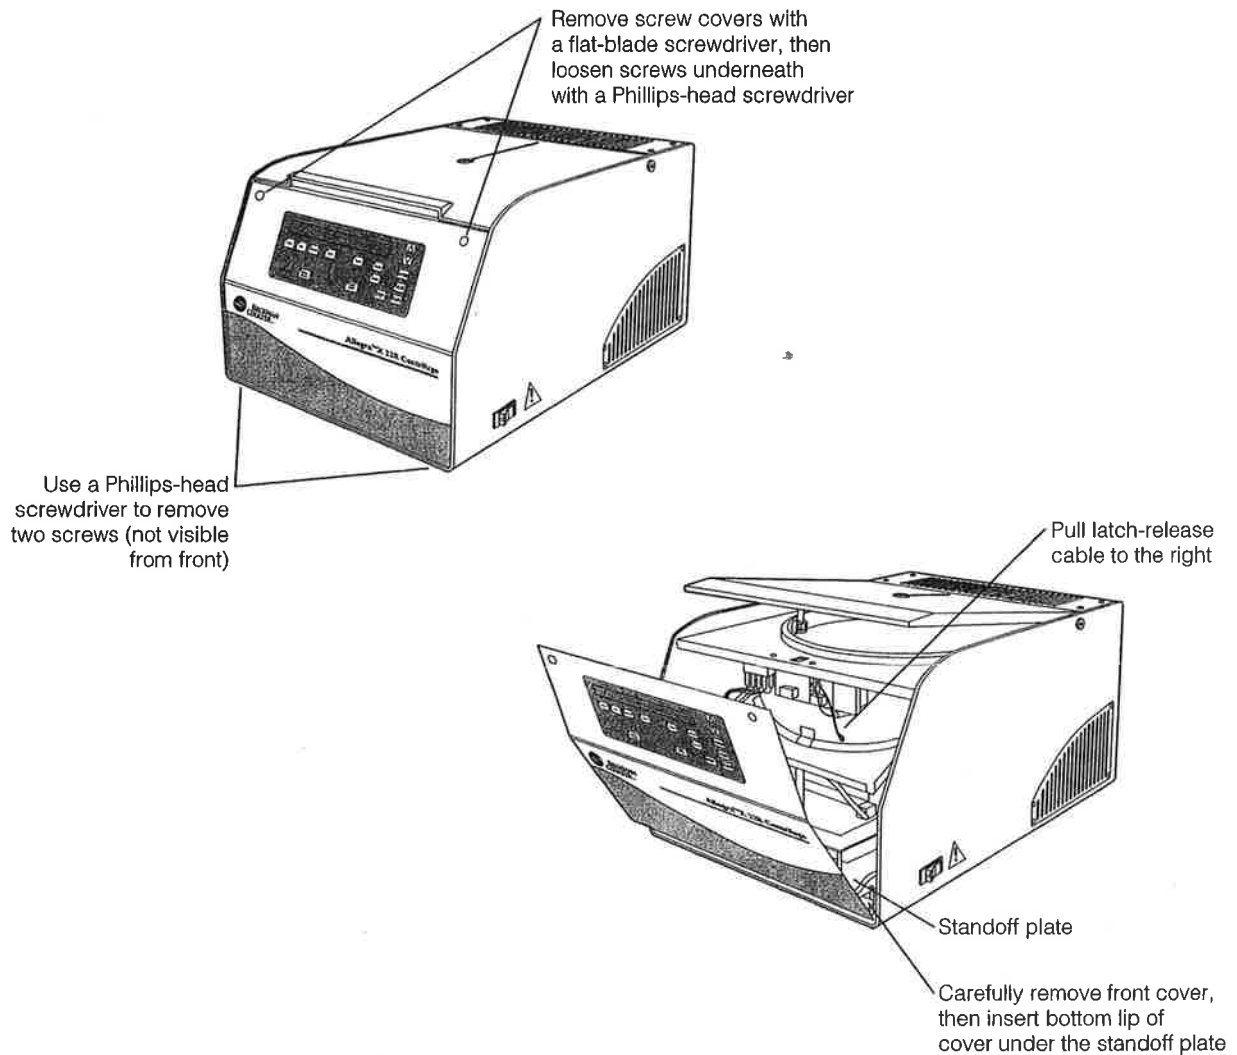

Figure 4-1. Emergency Door Release
3. Use a small flat-blade screwdriver to pry off the two round screw-hole covers on the centrifuge front panel (see Figure 4-1). Set the covers aside.